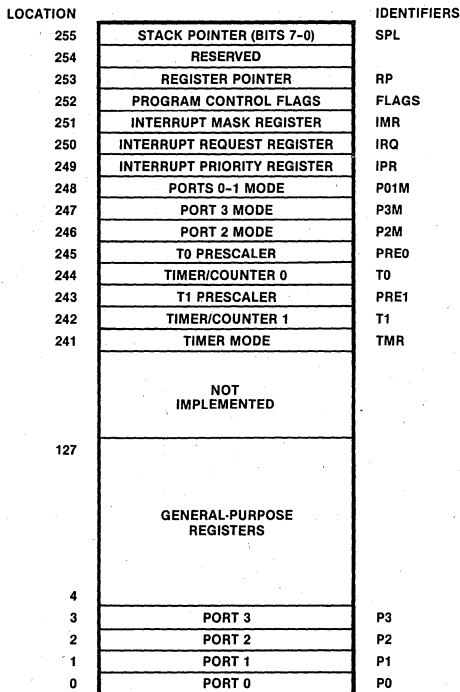

Figure 5. Register File
**Register File.** The 144-byte register file includes four I/O port registers (R0-R3), 124 general-purpose registers (R4-R127) and 14 control and status registers (R241-R255). These registers are assigned the address locations shown in Figure 5.